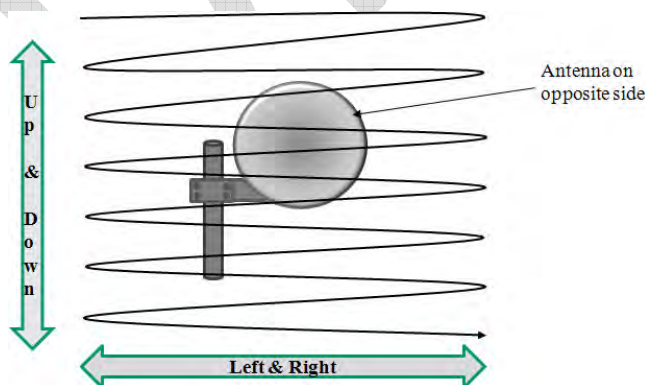

Figure 5-10: Antenna alignment scan
5. Turn the Azimuth and Elevation Adjustment Screws at each antenna left/right for best azimuth alignment and up/down for best elevation alignment and observe the voltmeter reading. The goal is to find the maximum RSSI voltage reading on both sides of the link. Using a meander-like scan pattern has proven to be the most efficient way to align the antennas. This is illustrated in Fig. 5-10.